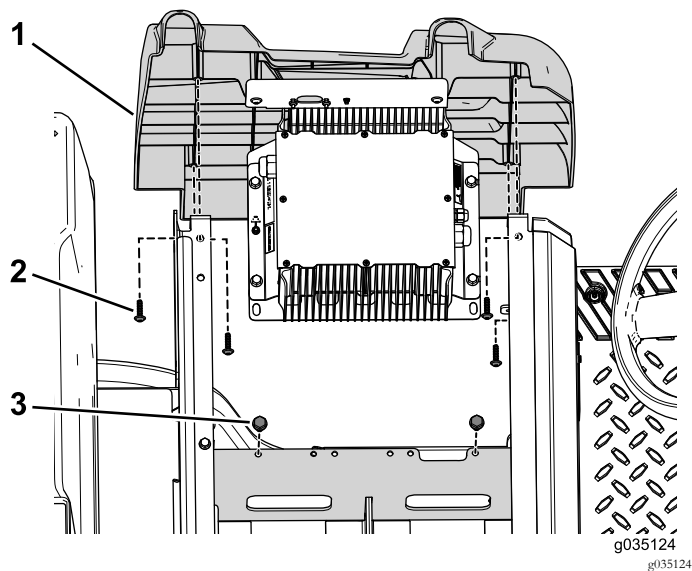

Figure 56
4. Remove the 2 bolts securing the charger bracket to the battery tray (Figure 56).
5. Remove the 4 self-tapping screws securing the left side cover to the machine (Figure 56).